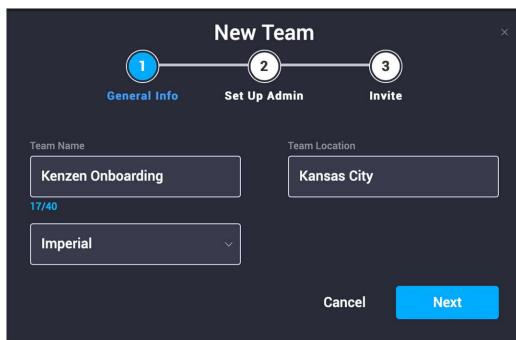

Figure 37: Team Information
- Enter team information, including a unique short **Team Name**, **Team Location**, and **Units** (Figure 37).